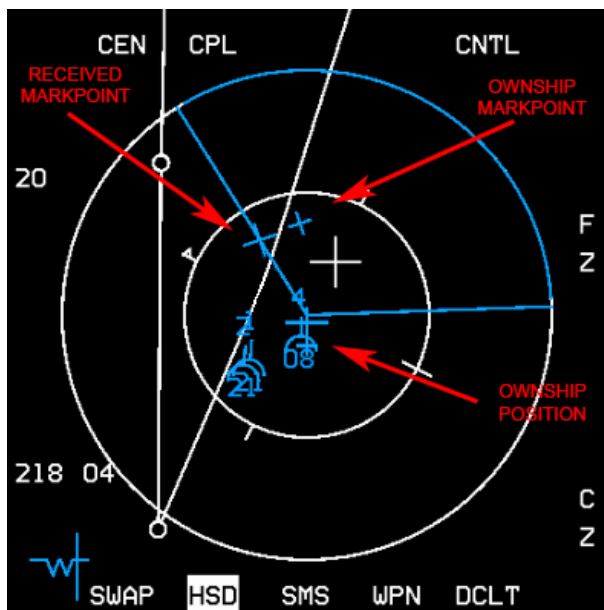

Figure 51 Assignee (#3's) HSD and HUD showing data linked Markpoint
- Data Link Steerpoints (see Figure 51). Are stored in steerpoints 71-80. Ownship markpoints are shown as a big X. Datalink steerpoints are shown as a small x. If you select one as your active steerpoint the X or x will be highlighted in inverse video.